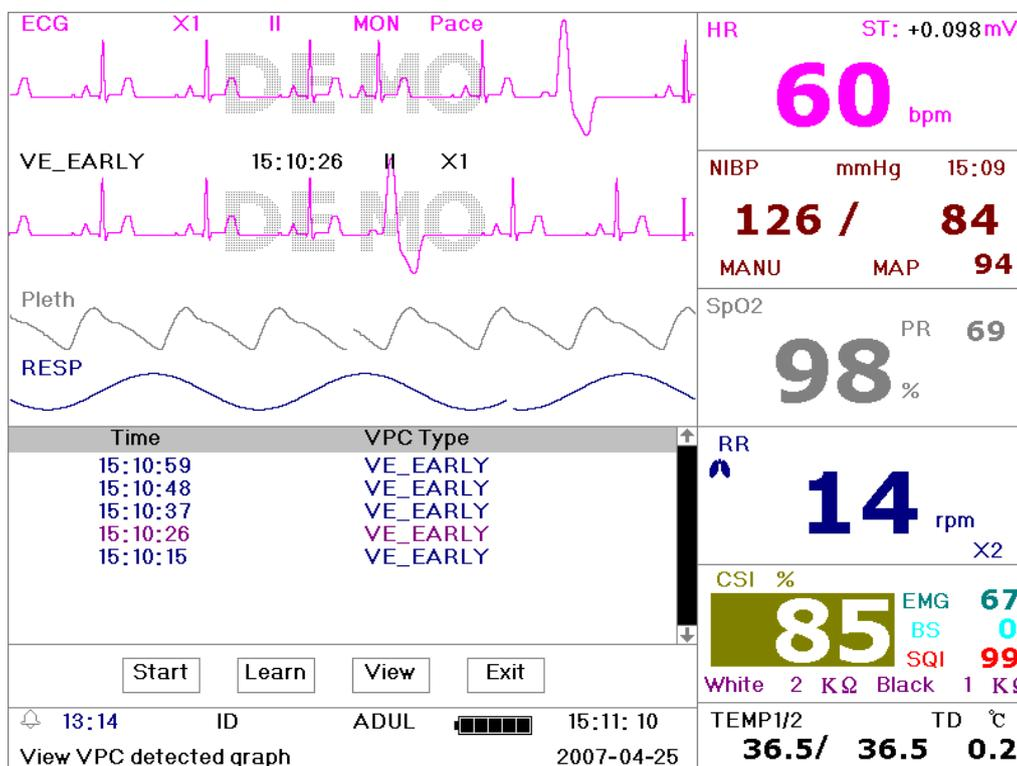

Figure 4.27 VPC Screen
Move the gray cursor to “VPC” and press Navigation Knob to enter VPC screen, shown in Figure 4.27.
**Start:** This button is used to start and end the system arrhythmia detection. The default is OFF. When the VPC is not ON, the learn key is disabled. Press this key and the system enters learning mode. The Start changes to End. Press it again to end the learning. When “Learn” key change to yellow from gray, it indicates the learning has finished. After the arrhythmia detection is begins, the system will automatically detect the arrhythmia waveforms. If arrhythmia is detected, the arrhythmia waveform will be displayed in the second ECG channel, shown in Figure 4.27